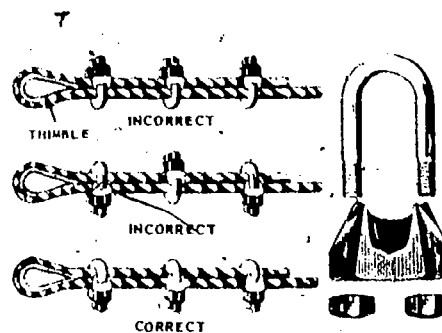

Fig 7-14. Wire-rope clips.
b. Wire-rope clips. A common method of making up tow cables, slings, or eyes in the ends of wire rope is by the use of wire-rope clips. Figure 7-14 illustrates the correct method of installing the clips. The number of clips to be installed is equal to 3 times the diameter of the rope, plus 1 (No. clips = $3d + 1$). When the calculation results in a fraction, use the next larger whole number. The clips should be spaced about six rope diameters apart for best service. After all clips are initially installed, tighten the clip farthest from the thimble with a wrench. Place the rope under tension and tighten the remaining clips in order, working towards the thimble.